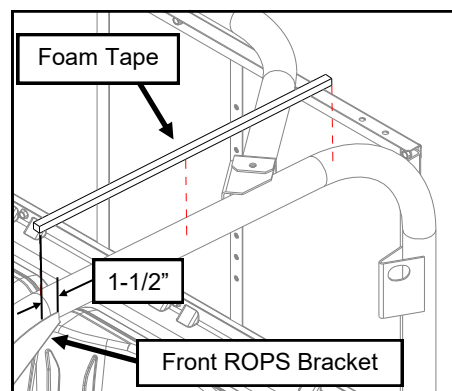

Fig. 5
5. Install foam tape to the top of the front-to-rear ROPS tubes on both sides of the vehicle. Foam tape to start approximately 1-1/2" in front of front ROPS bracket edge (see fig. 5) or at the rear of the windshield frame (if installed)
7. Remove (2) top rear ROPS bolts (M10), and save for re-use.